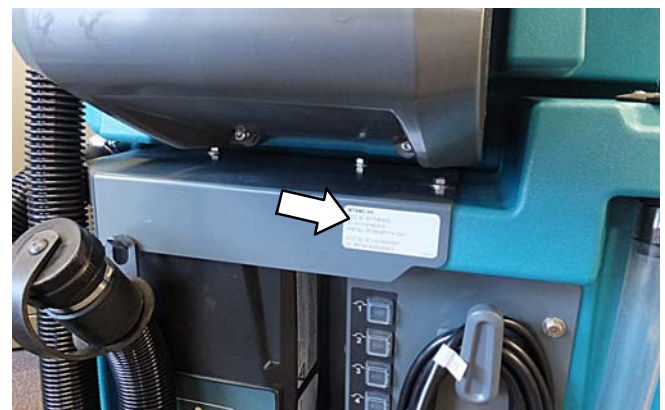

Fig. 17
14. Apply the FCC label [1069580] to machine as shown (Figure 17).